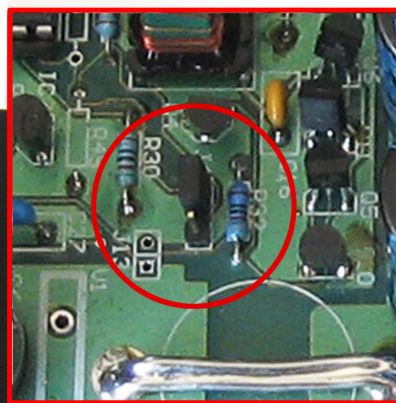

Figure 1.
on the back panel (bottom middle below fan) then slide out bottom cover – **see Figure 1.**
- 3.Locate connector J4 – **see zoom window in Figure 1.**